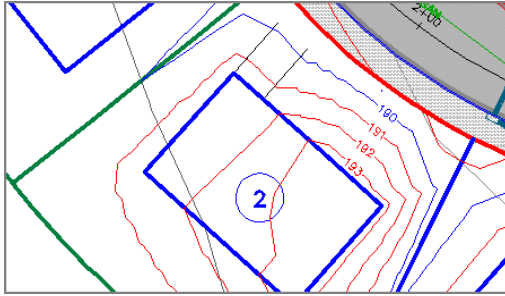

FIGURE 18.11 Contour labels in the front yard of lot 2
5. When prompted to specify the first point, pick two points that draw a line through the contours in the front yard of lot 2 (see Figure 18.11).